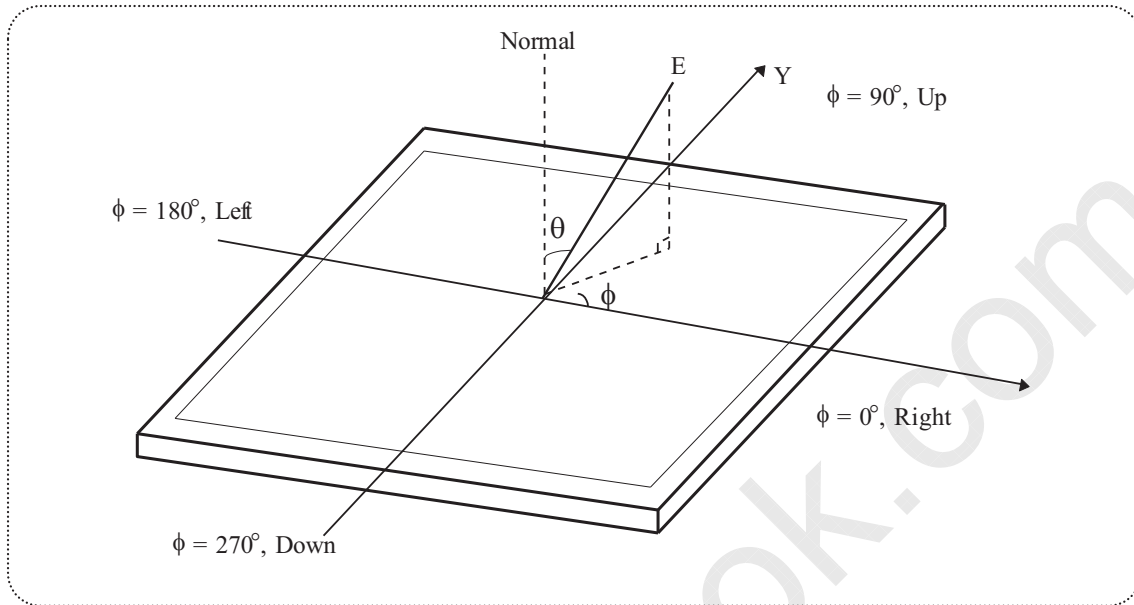

FIG.11 Viewing angle
7. Viewing angle is the angle at which the contrast ratio is greater than 10. The angles are determined for the horizontal or x axis and the vertical or y axis with respect to the z axis which is normal to the LCD surface. For more information see FIG.11 **(By PR880)**